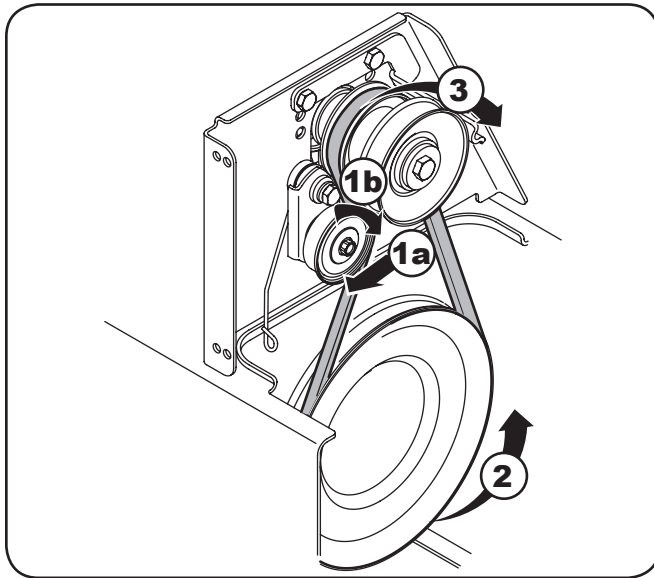

Figure 7-8
- Pull the idler pulley away from the backside of the drive belt to relieve the tension and slip the drive belt off the idler pulley. Carefully release the idler pulley. See Fig. 7-8.